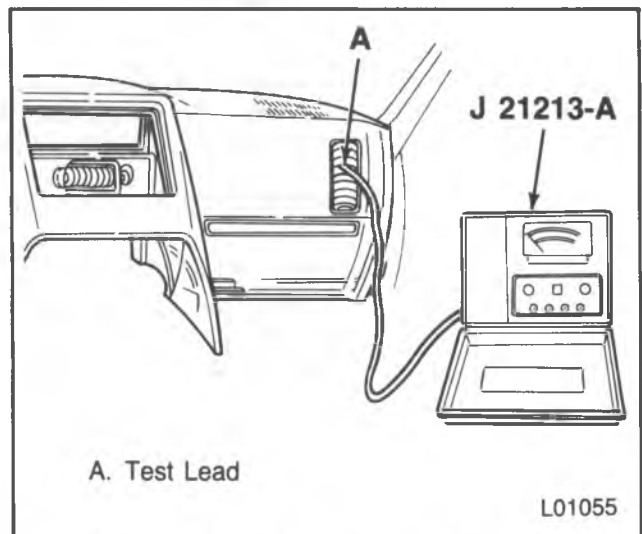

Figure 11 — Installing Temperature Tester J 21213-A
5. Install J 21213-A at the instrument panel right outlet (figure 11).